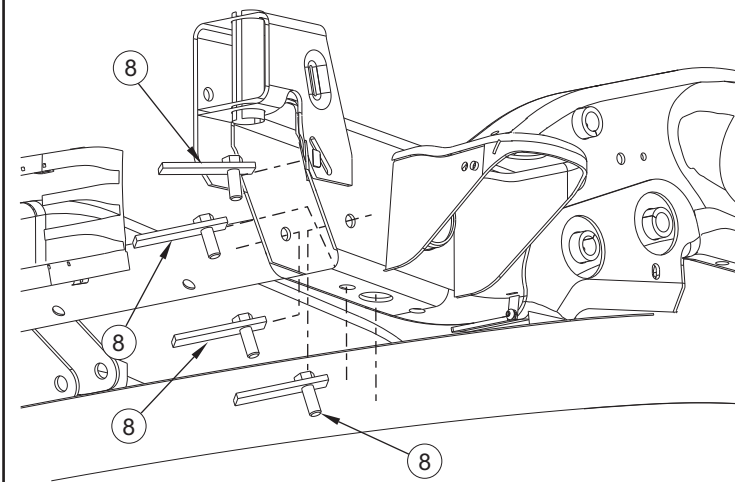

FIGURE 3
- STEP 4. Slide two bolt plates through the end of the frame and allow them to drop through the hole locations as shown. **SEE FIGURE 2.** Determine passenger and driver side support braces. Attach the support braces to the bottom surface of the frame using 1/2" yellow zinc fasteners. Make sure the tab with the weld nut is even with the inside face of the frame. Leave loose. **SEE FIGURE 3.**